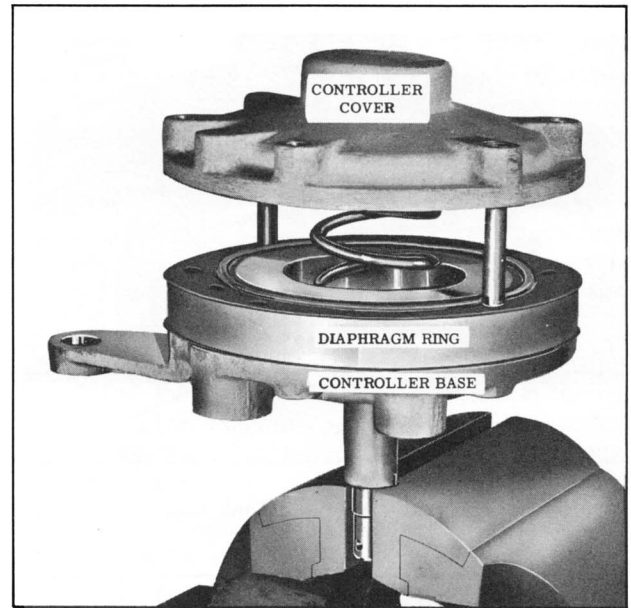

Fig. 8-115 Installing Cover
8. Install the shims and retainer in the cover and position over guide pins. (Fig. 8-115)
9. Compress the controller stack up and install two (2) opposite bolts finger tight.